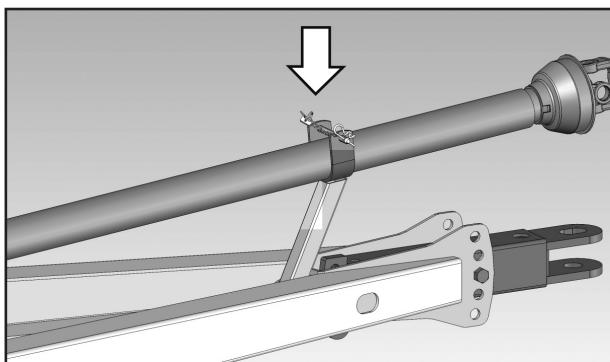

Figure 4 - Driveshaft propped on towbar end
- 5) If any maintenance, repair or inspection tasks need to be carried out on the machine, uncouple the driveshaft from the tractor PTO and prop it on the towbar end support as shown in the figure 4.